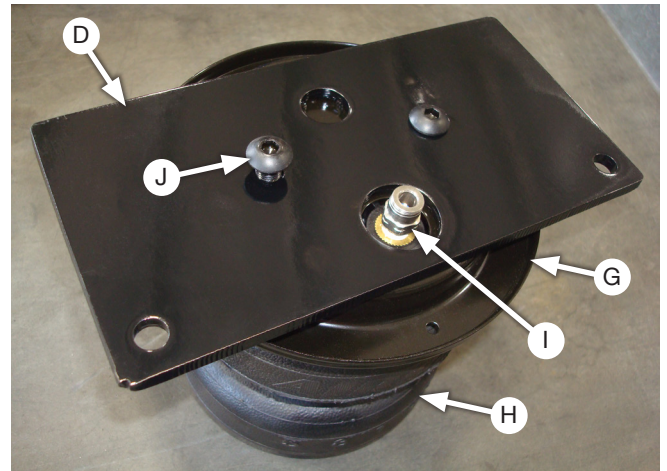

Fig. 11
1. Set a roll plate (G) on top of the air spring (H) and install the straight fitting (I) finger-tight. Torque the fitting one and a half turns. Set the upper air spring bracket (D) onto the air spring, making sure the large hole is aligned with the fitting. Install the bracket using the 3/8" button-head cap screws (J) and torque to no more than 20 lb.-ft. (27Nm) (Fig. 11).